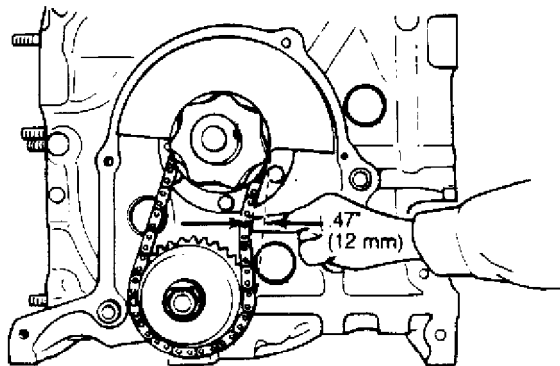

Fig. 29: Measuring Oil Pump Drive Chain Slack
- 2) Check oil pump drive chain slack by pressing finger against chain. See Fig. 29 Chain slack measurement should not exceed .47" (12 mm). If the slack exceeds the limit, replace drive chain.
1) Remove front engine cover. Check oil pump drive chain slack by pressing finger against chain and measuring slack. If measurement exceeds .47" (12 mm), replace drive chain. See Fig. 29.